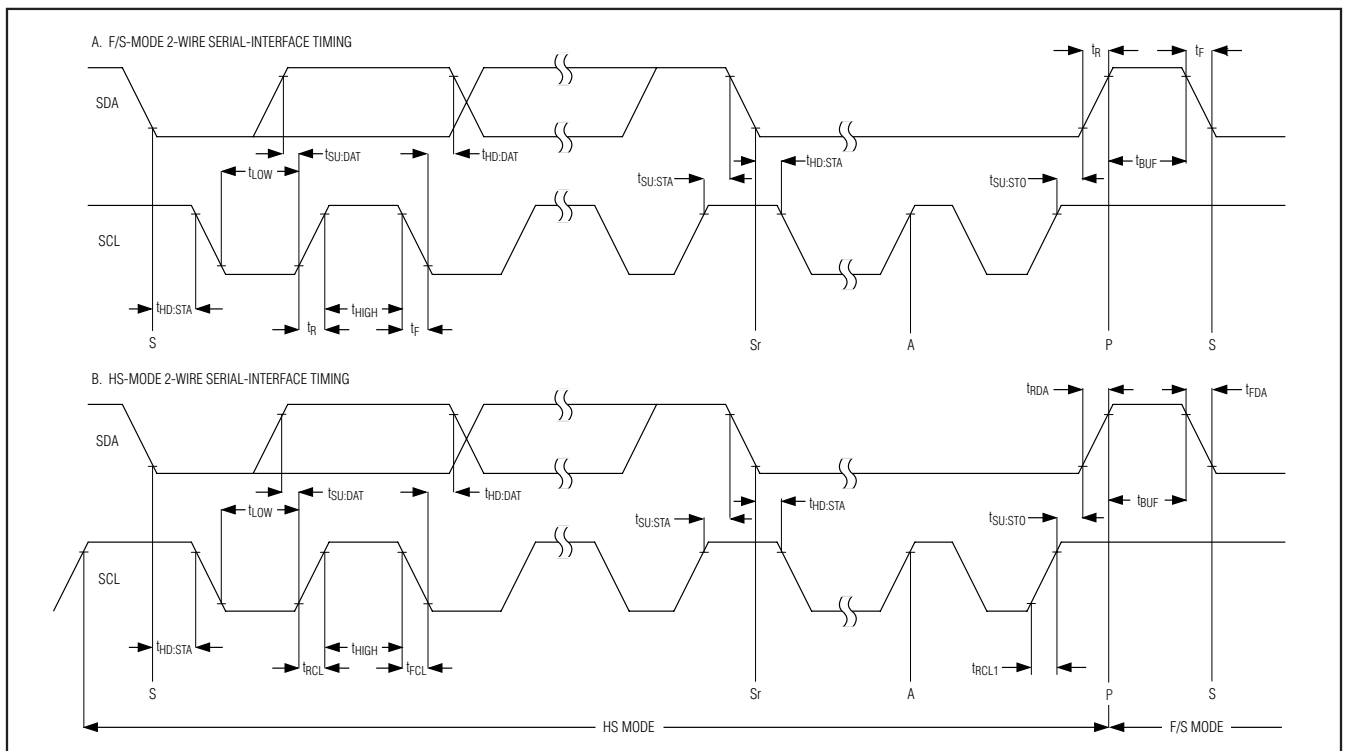

Figure 1. 2-Wire Serial-Interface Timing
### TIMING CHARACTERISTICS (Figure 1)
### TIMING CHARACTERISTICS (Figure 1) (continued)
**Note 11:** A master device must provide a data hold time for SDA (referred to VIL of SCL) to bridge the undefined region of SCL's falling edge (see Figure 1).
up to 22.2ksps. The MAX11606–MAX11611 must operate in high-speed mode (HS mode) to achieve conversion rates up to 94.4ksps. Figure 1 shows the bus timing for the MAX11606–MAX11611's 2-wire interface.